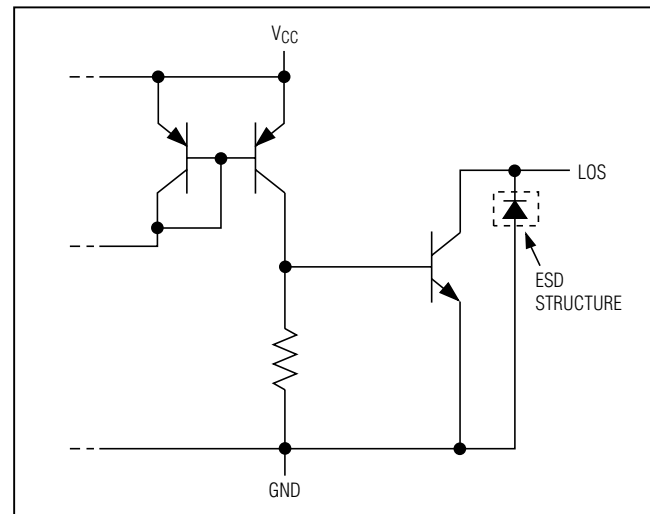

Figure 5. MAX3748 LOS Output Circuit
The MAX3748/MAX3748A/MAX3748B are equipped with an LOS circuitry, which indicates when the input signal is below a programmable threshold, set by resistor RTH at the TH pin (see *Typical Operating Characteristics* for appropriate resistor sizing). An averaging peak-power detector compares the input signal amplitude with this threshold and feeds the signal detect information to the LOS output, which is open collector. Two control voltages, VASSERT and VDEASSERT, define the LOS assert and deassert levels. To prevent LOS chatter in the region of the programmed threshold, approximately 2dB of hysteresis is built into the LOS assert/deassert function. Once asserted, LOS is not deasserted until the input amplitude rises to the required level (VDEASSERT) (Figure 5).
- Rev 2; 2/04: Changed package code in Ordering Information table and added lead-free packages (page 1); inserted *Hybrid Lead-Free Package* section (page 7); updated Figures 5 and 6 (page 8); updated package drawing (page 11).